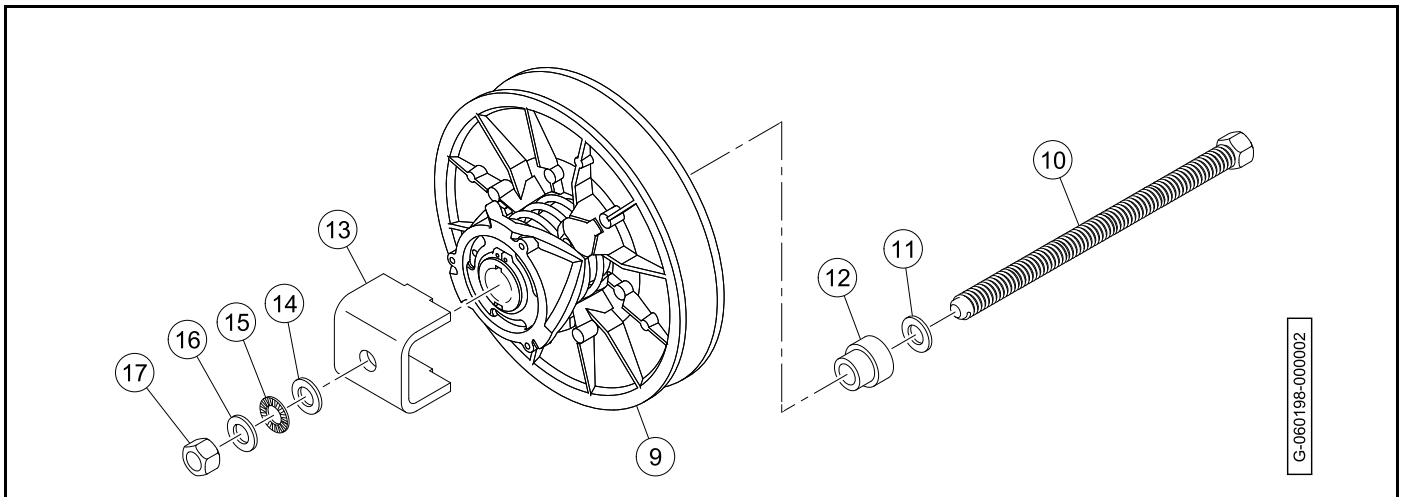

Figure 24-21 Driven Clutch Tool - Assembly
3. Place the end of the spring (6) into the hole in the moveable sheave (9).
4. Install the key (7) into the keyway of the fixed sheave shaft.
5. Holding the cam (8) in position for assembly on the shaft, install the other end of the spring into the center spring hole of the cam. Rotate the cam until the keyway is aligned with the key on the fixed sheave, and then start the cam onto the shaft approximately 1/4 to 3/8 in. (6.3 to 9.5 mm).
6. With the clutch loosely assembled, set the edge of the clutch body (9) on a clean, flat surface (**Figure 24-21, Page 24-17**).